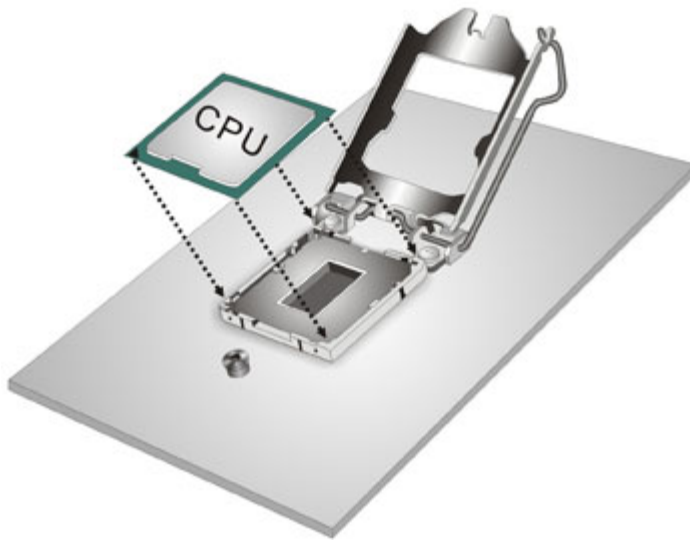

Figure 4-3: Insert the Socket LGA1156 CPU
- Step 7:** Insert the CPU. Gently insert the CPU into the socket. If the CPU pins are properly aligned, the CPU should slide into the CPU socket smoothly. See **Figure 4-3**.